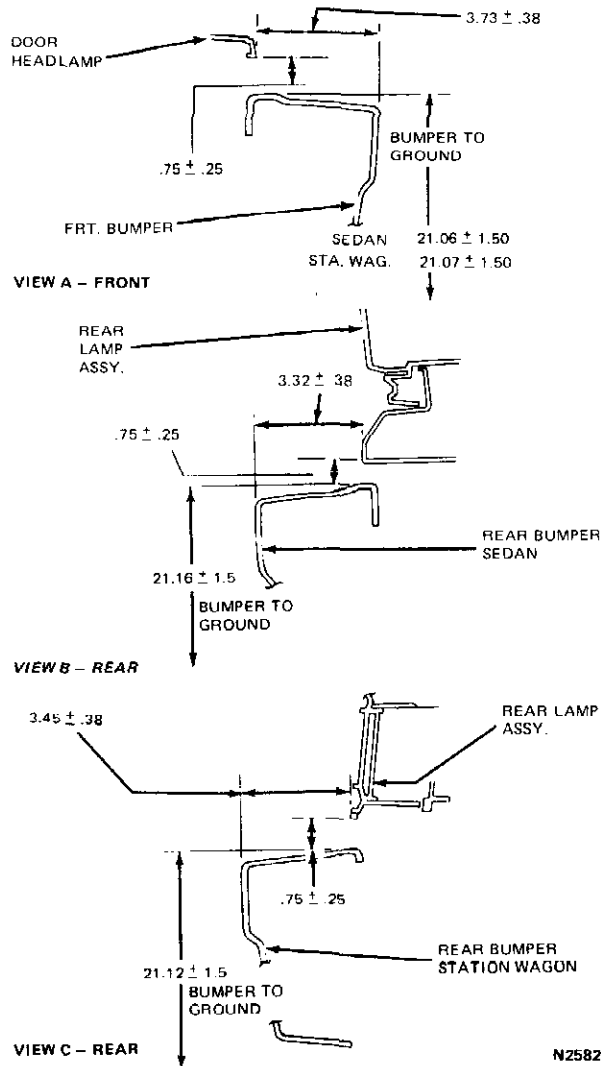

FIG. 4 Bumper Adjustment Specifications
5. Adjust the bumper height so that the distance from the top edge of the ground meets the specifications in Fig. 4. Then, adjust the bumper for body clearance so that the vertical and horizontal body to bumper dimensions meet specifications in Fig. 4. Tighten the isolator-to-reinforcement attaching bolts to 25-38 ft-lb torque. Tighten absorber to underbody mounting bolts to 60-90 ft-lbs torque.
4. Adjust the bumper height so that the distance from the top edge to the ground meets the specifications in Fig. 4. Then adjust the bumper for body clearance at the centerline of the tail lamp so that the vertical dimension meets the specifications in Fig. 4. Tighten the isolator-to-reinforcement bolts to 25-38 ft-lbs torque.